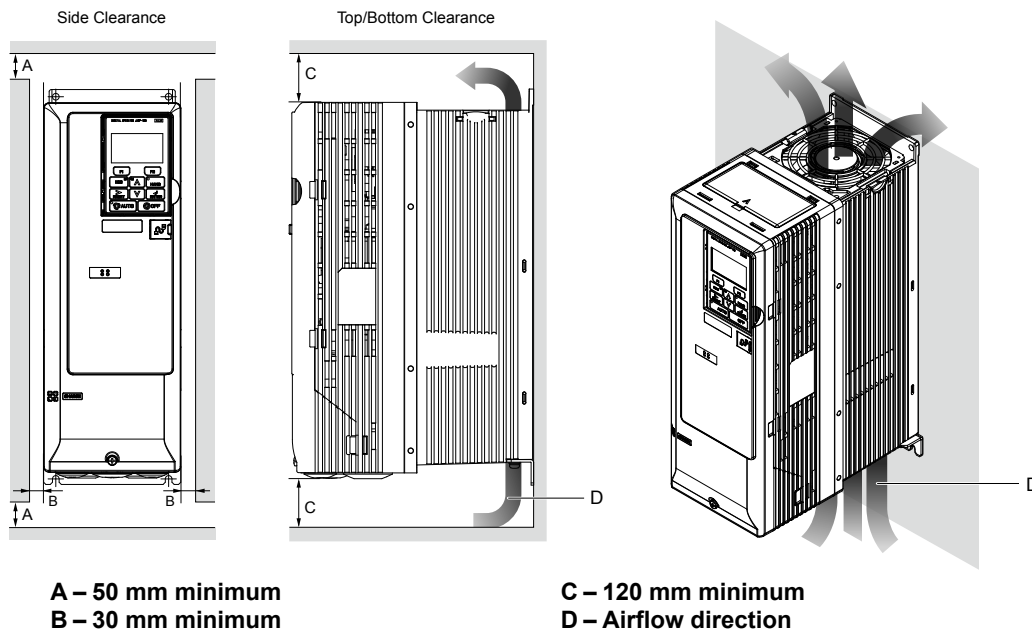

Figure 2.3 Correct Installation Spacing
*Figure 2.3* shows the installation distance required to maintain sufficient space for airflow and wiring. Install the heatsink against a closed surface to avoid diverting cooling air around the heatsink.